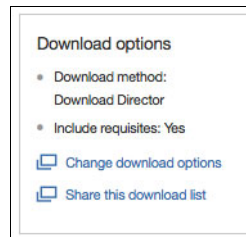

Figure 7-47 Select Change download options to your preferred method
6. To change download options, use the panel shown in Figure 7-47. This panel is available on the Download page.